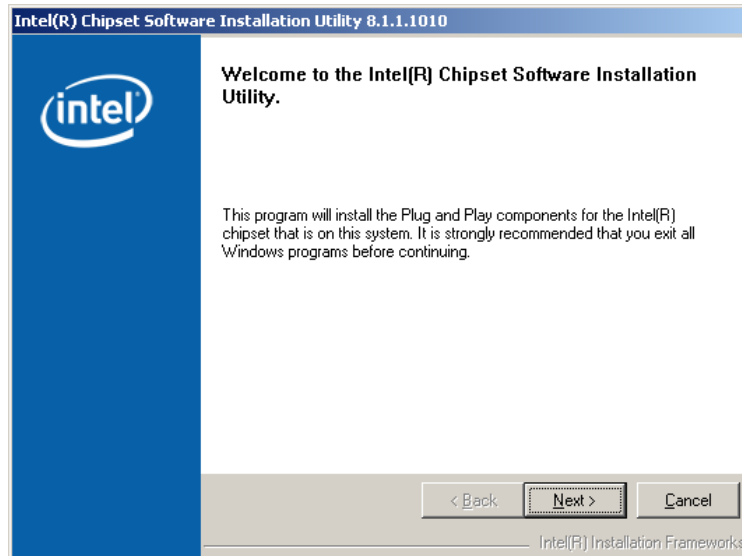

Figure 7-5: Chipset Driver Installation Welcome Screen
Step 11: The welcome screen in **Figure 7-5** appears.